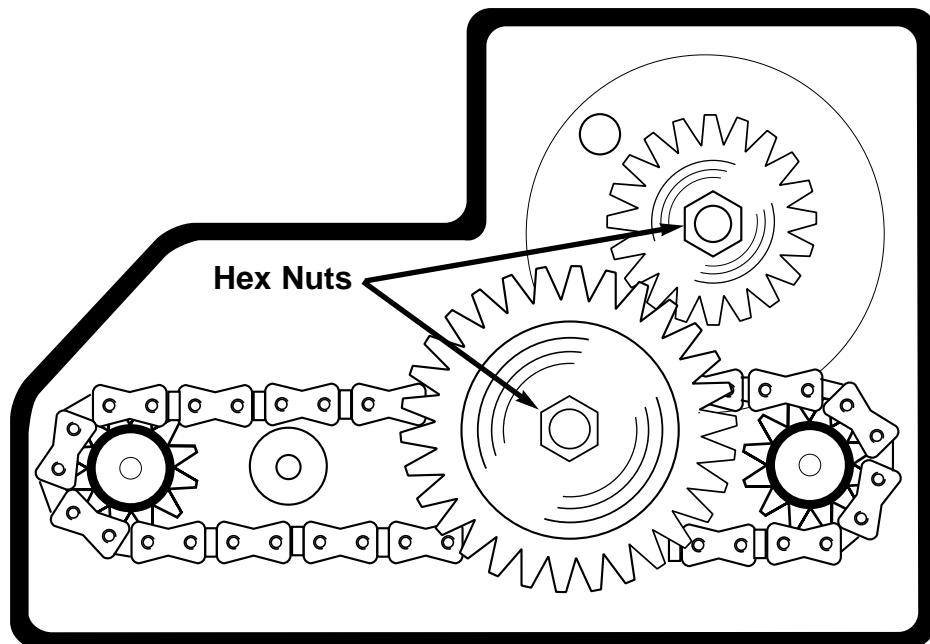

Figure 10
4. Remove the hex nuts which hold the drive gears in place. See Figure 10.